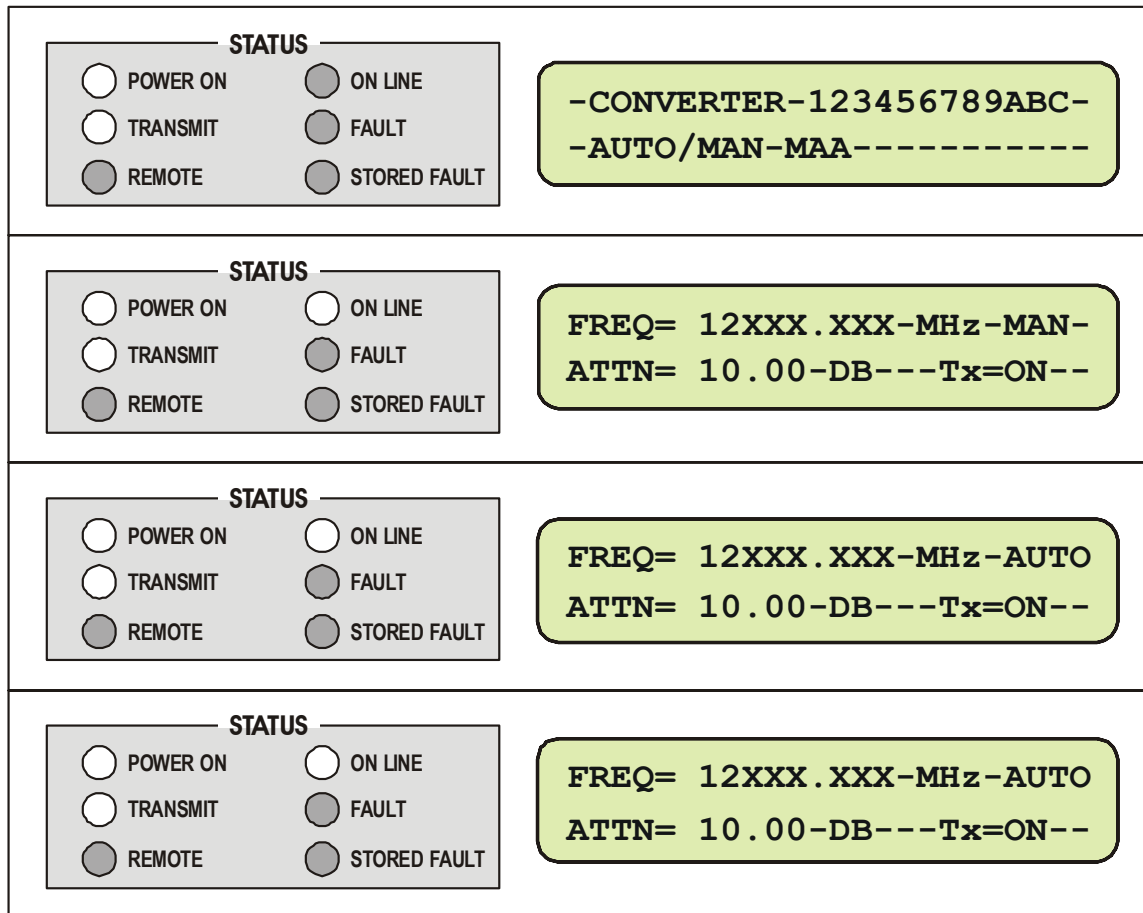

Figure 32. Converter #1 in MANUAL, Others in AUTO
Figure 32 shows the system with converter #1 configured for manual(M) operation. In this mode, the backup Converter can force switchover of an online unit. This mode also overrides fault status detection of the online units performed by the backup Converter. If an online unit is configured to manual mode and this unit faults, no switchover will occur.